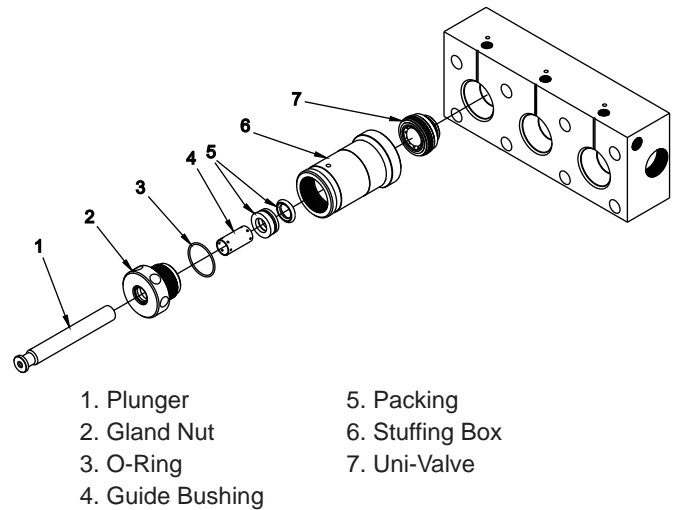
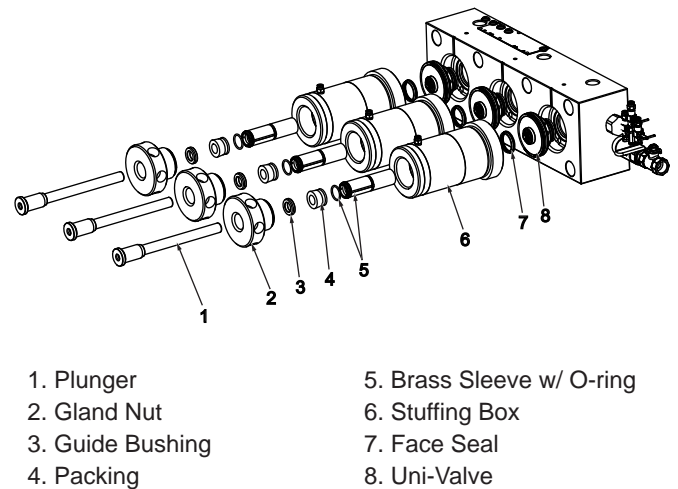

Fig. 71: 15K/20K Fluid End (Not All Components Shown)
Fig. 72: 40K Fluid End (Not All Components Shown)
Note: On 40K fluid ends, the brass sleeve (Fig. 72) inside the stuffing box does not need to be removed unless the plunger shows evidence of rubbing on the sleeve.
3. Place the new packing and guide bushing onto the plunger. Orient the packing as shown in (Fig. 71) for 15K/20K and (Fig. 72) for 40K.